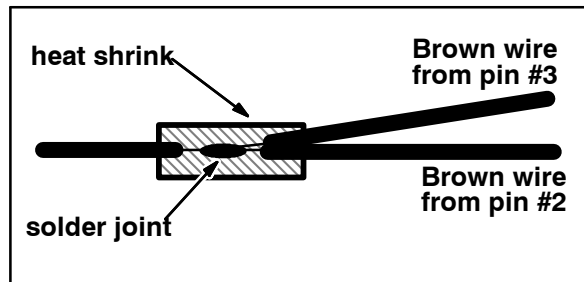

FIG. 4
9. Solder the loose end of the brown wire in **pin #3** to the brown wire in **pin #2**. Solder wires as shown in Fig. 4 so heat shrink can be positioned over the solder joint for the best possible seal.
10. Heat shrink the heat shrink over the solder joint and the exposed portions of both brown wires. Refer to Fig. 4.